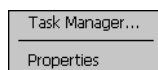

Figure 2-10 *Task Manager, Properties Selection Menu*
1. Tap **Start > Control Panel > Taskbar and Start Menu ...** . The *Task Manager, Properties* window displays, see Figure 2-10 on page 2-17.